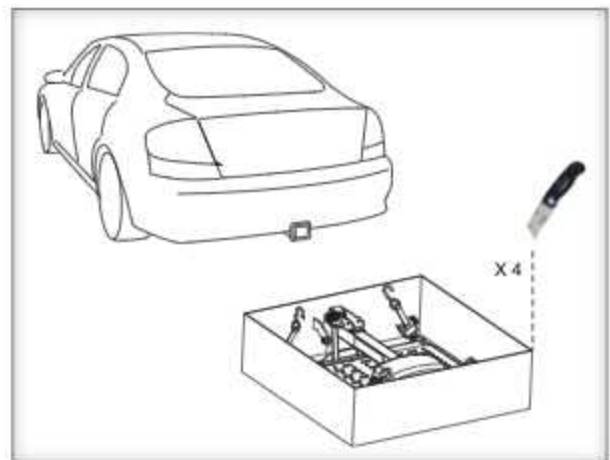

Figure 15-1
2. Position the open box behind the vehicle. Slice the corner seams. [Figure 15-1]